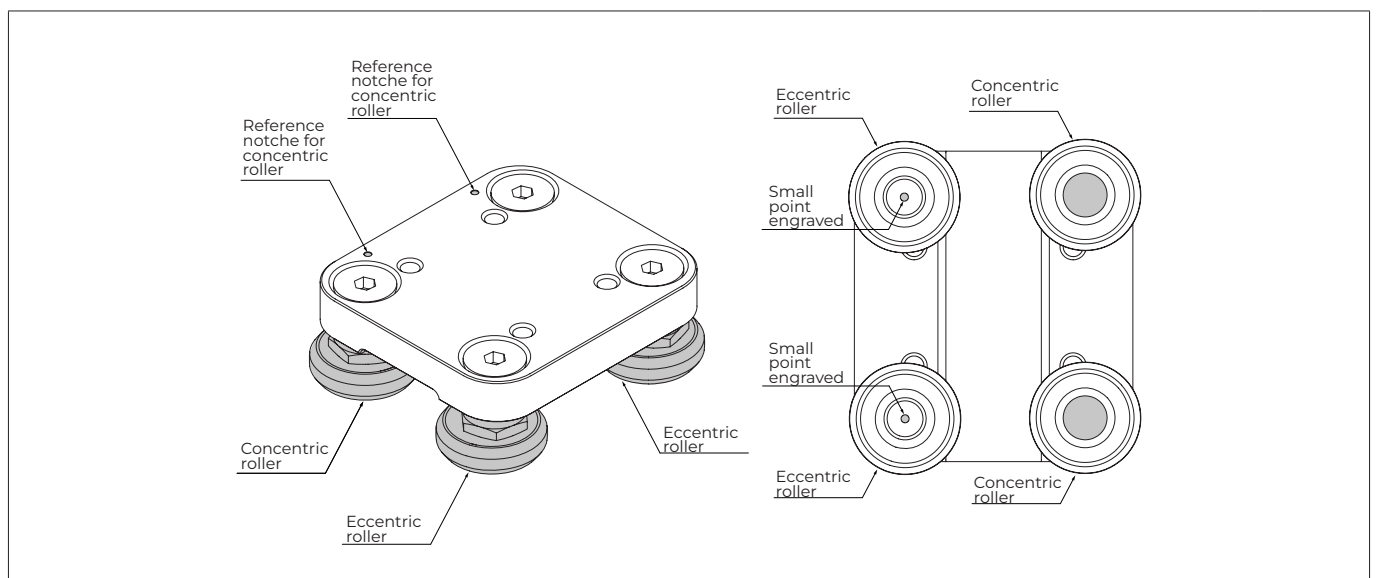

Fig.8
- ▣ Slightly loosen the fixing screws of the roller mounting. The eccentric roller pins are marked on the bottom (see Fig.8).